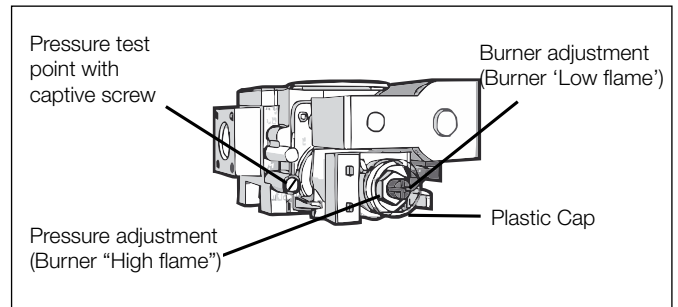
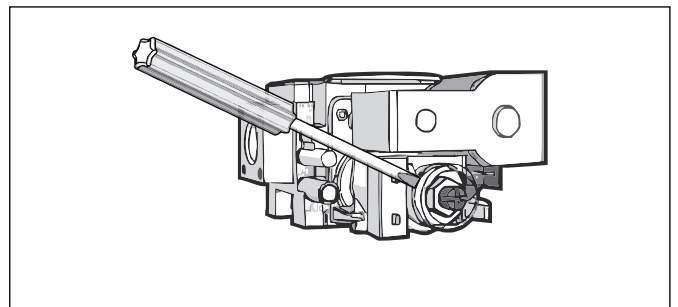

FIG 17
FIG 18
- Gas valve layout is as indicated in **FIG 17**. Pressures for 'Burner high flame' and 'Burner low flame' are factory set, however if pressures need to be checked or adjusted follow the procedures described below. To check outlet pressure at burner 'high flame' and 'low flame' positions remove the plastic cap from the regulator adjustment location as indicated in **FIG 18**.